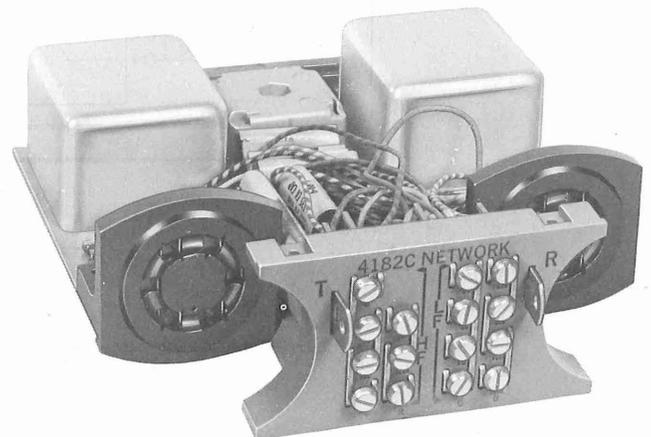
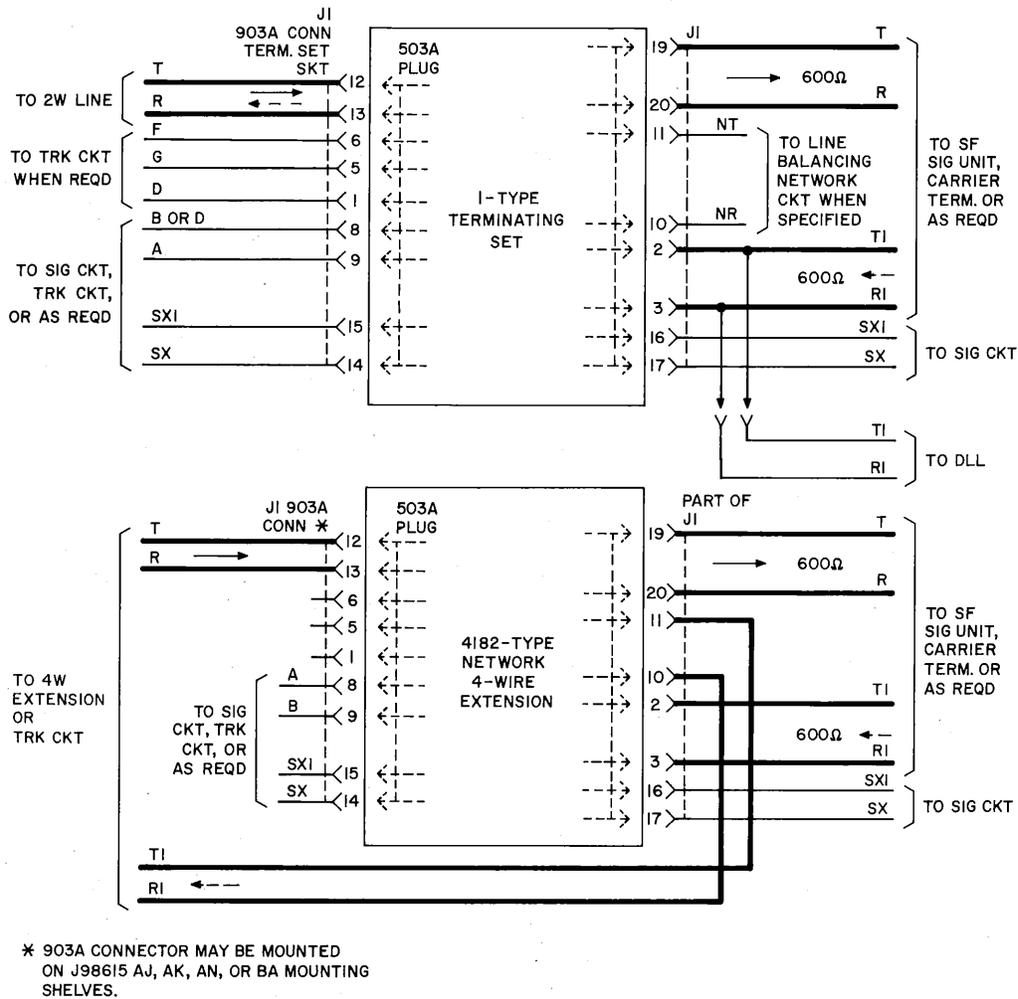

Fig. 1—4182C Network, 4-Wire Extension
Fig. 2—Terminal Correspondence—I-Type Terminating Set and 4182-Type Network
1.01 This section describes the 4182C 4-wire network (Fig. 1). The network is one of a series of 4-wire extension networks. Four-wire extension networks extend circuits from carrier terminals or 4-wire metallic facilities to customer premises or to central office switching machines on 4-wire cable pairs. They are physically interchangeable with 1-type terminating sets (Fig. 2). Consequently, the choice of plug-in units — 1-type terminating sets or 4182C networks — makes the same physical equipment mountings suitable for either 2-wire or 4-wire extensions.
2.01 The 4182C network (Fig. 1) is a plug-in unit equipped with a 20-pin connector and is designed to be plugged directly into the 1-type terminating set socket of the mounting shelf.